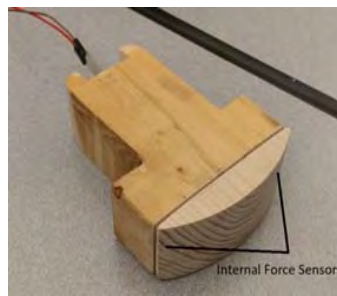
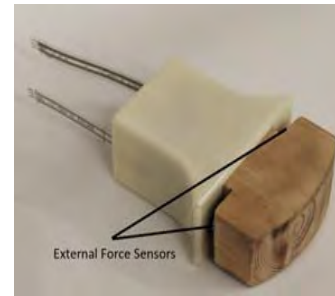

Figure 2 : Internal sensor prototype
Figure 3: Over-probe case
- Built two functional prototypes: Over-case design (Fig 2), Internal sensor design (Fig 3)